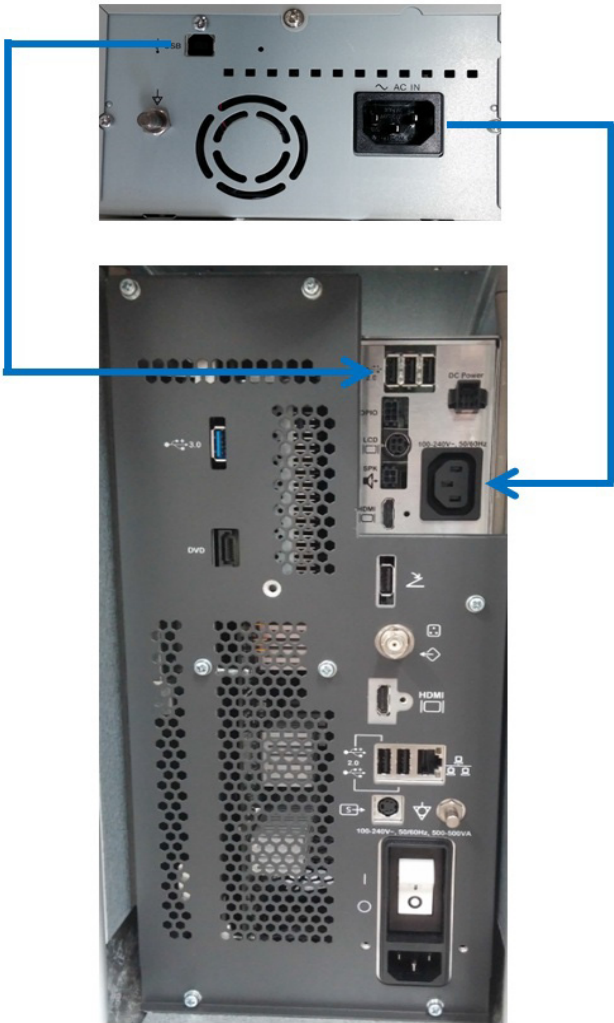

Figure 3-6 B&W Printer connection
- 2) Connect the Black & White printer according to correct connection scheme as described in Figure 3-6 on page 3-14.